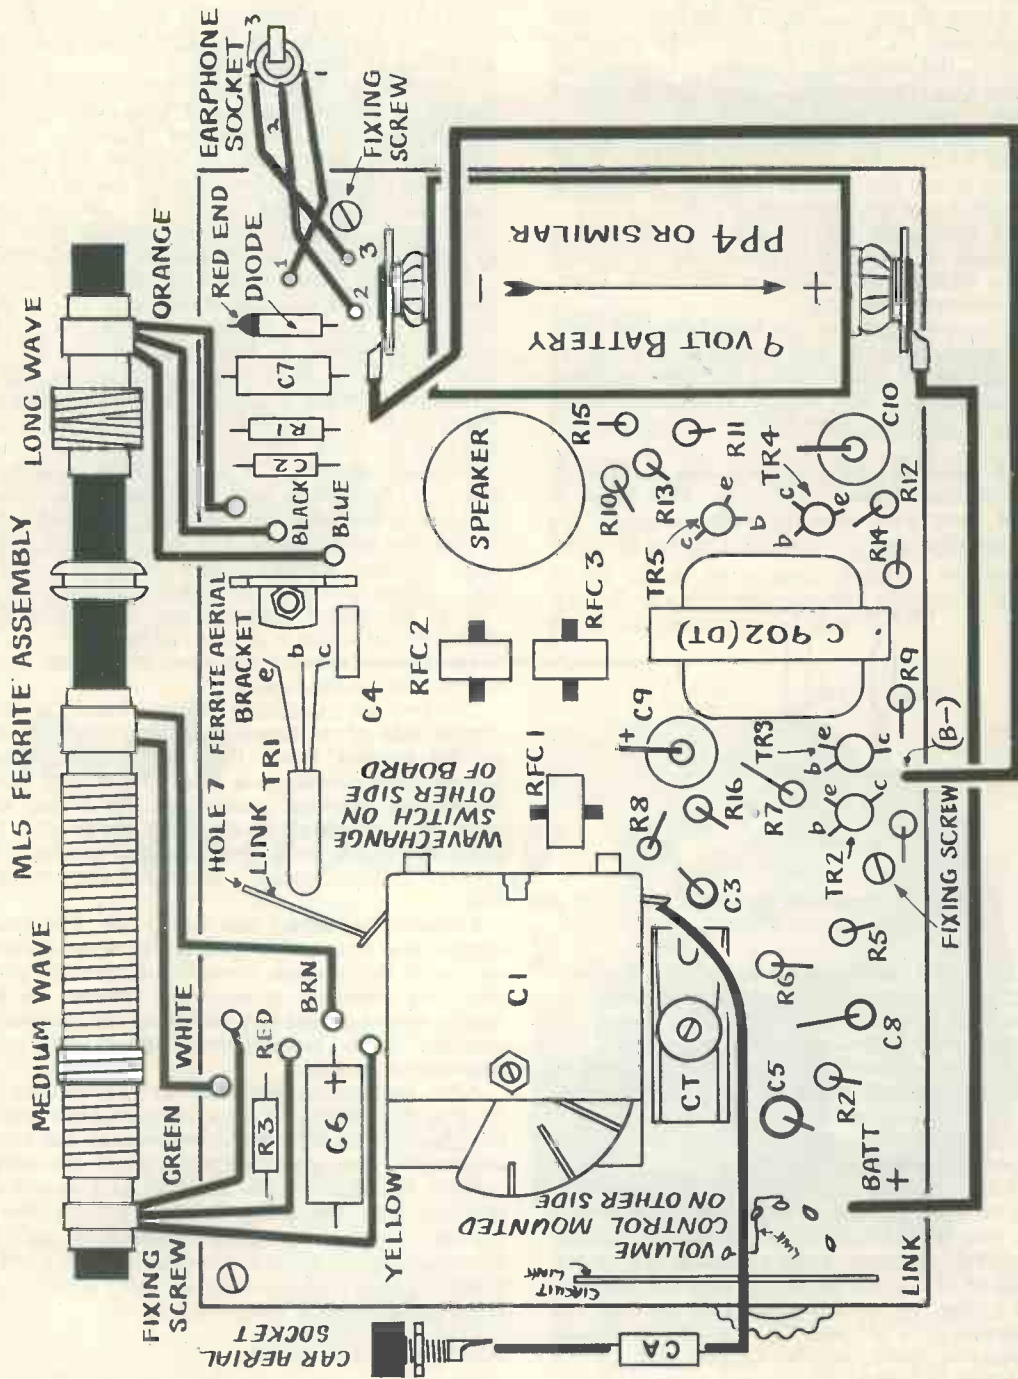
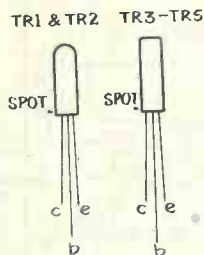

Fig. 2. Practical layout diagram of the receiver
Fig. 3. Transistor connections
Place the control on to the board (copper side) and then carefully solder into position. The control must lie flat on the board after it has been soldered into place. Solder a link wire, as illustrated, to the three tags of the control on top of the board. (See Fig. 2.)
Fit and solder a length of bare wire to provide the "circuit link" shown in Fig. 2. Also solder a length of bare wire into the hole marked "7", leaving the other end of this wire free for the time being.
Remember that the spot on the side of each transistor indicates the collector (C). The base (B) is in the centre and the emitter (E) on the other side. (See Fig. 3.) The leads on TR₁ (OC44) should be bent so that the transistor lies horizontally over the switch as shown in Fig. 2. Use a heat shunt whilst soldering all transistor leads.
Obtain the ferrite aerial and bolt the bracket to the board. The windings must be as shown in the diagram of Fig. 2. Solder the aerial leads to the appropriate holes, as indicated, keeping the wires short but, at the same time, ensuring that they are of sufficient length to enable the ferrite aerial to be removed up to some 1½in from the board. Clip the rod into the aerial bracket.
Switch to the medium-wave position and, with volume at maximum setting, turn the dial plate to indicate the local B.B.C. station. Slide the medium-wave winding (see Fig. 2) along the ferrite aerial rod until the station is heard. Place the long-wave winding at the very end of the ferrite rod. Turn the volume control to the half volume position and adjust trimmer capacitor CT until the station is heard at maximum strength without oscillation taking place. This may necessitate some slight repositioning of the medium-wave winding. Next turn the dial to indicate Radio Luxembourg or a station near this frequency and rotate the volume control to obtain oscillation free reception. The trimmer capacitor CT should be set such that the volume control will effectively remove oscillation on any required station. The tuning will be found to be very sharp and increases in volume control setting, whilst tuned to a station, may necessitate appropriate re-adjustments in tuning.